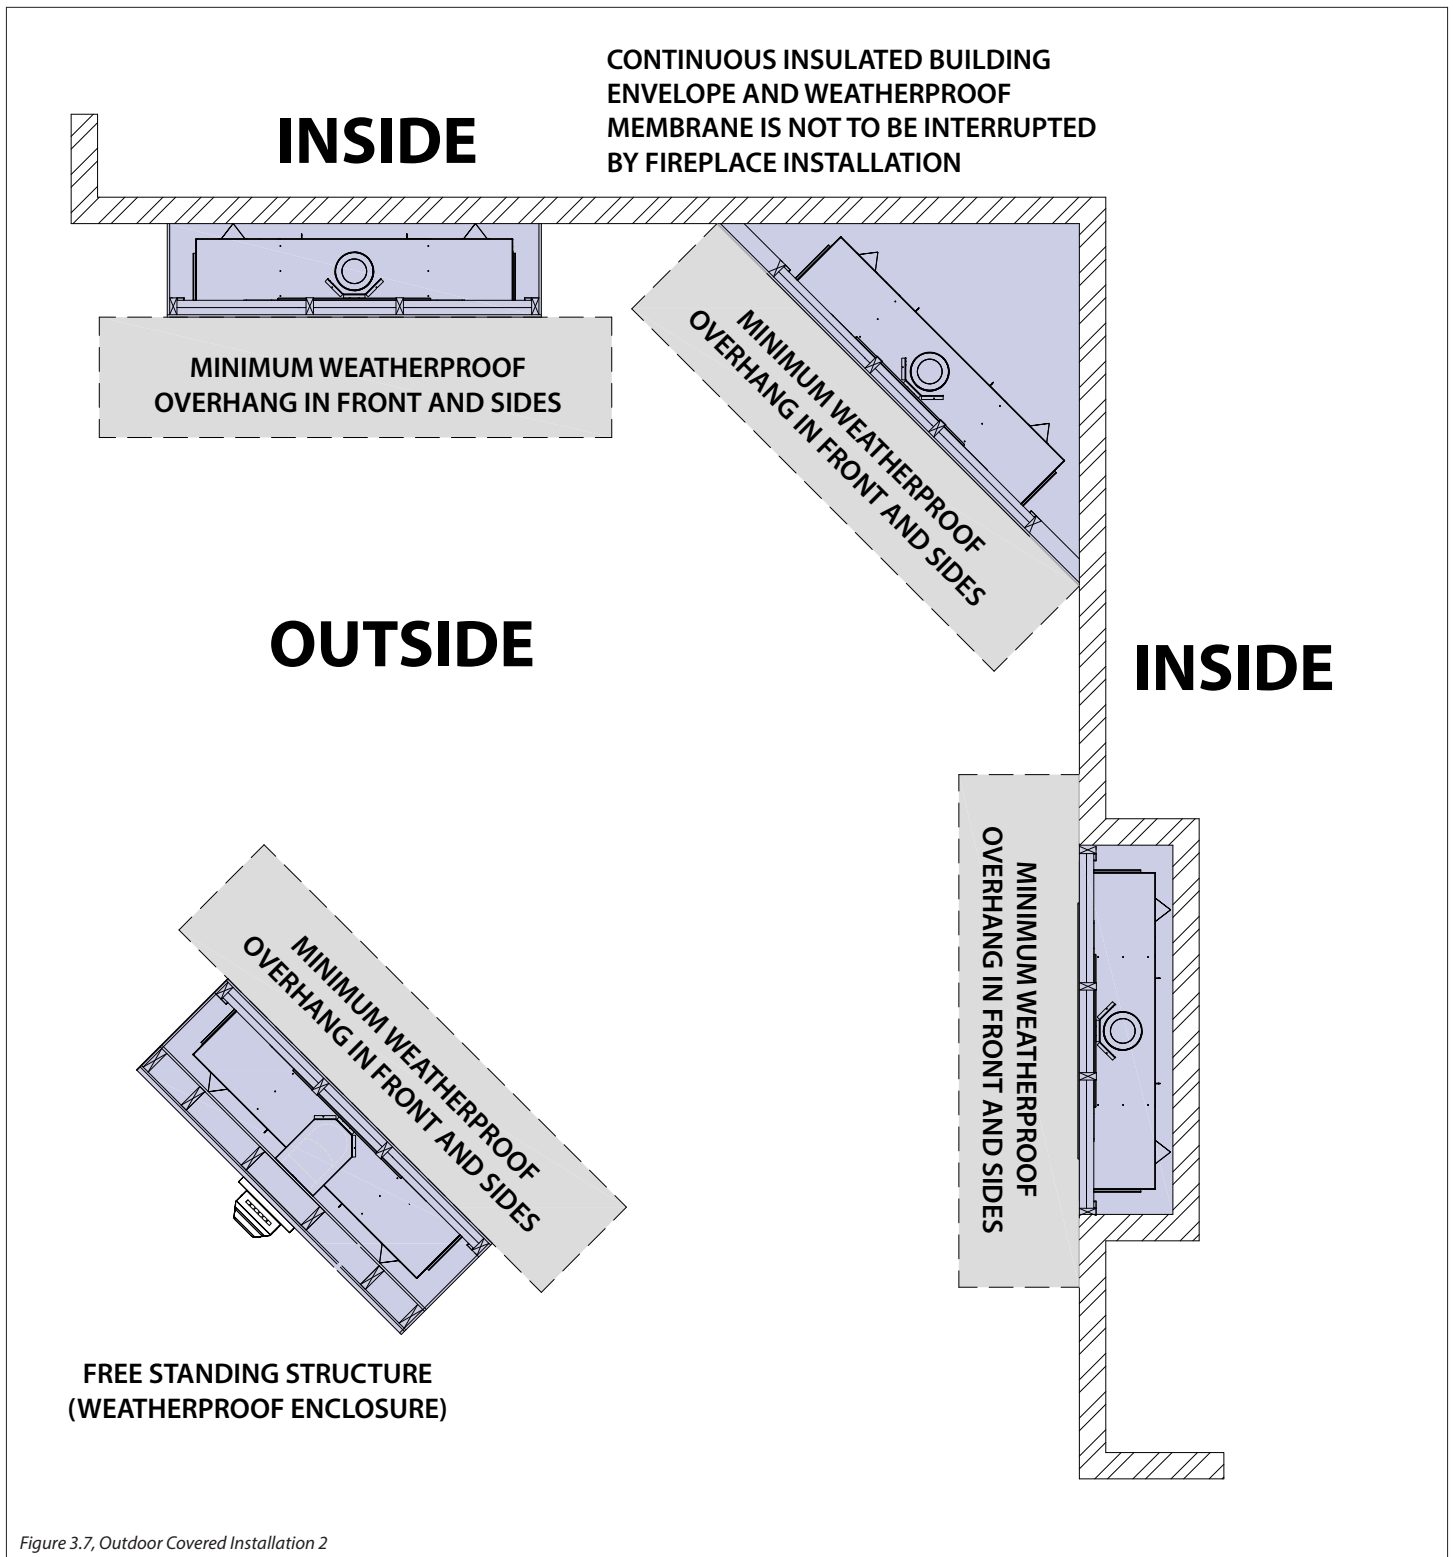

Figure 3.7, Outdoor Covered Installation 2
- The continuous insulated building envelope and weatherproof membrane are not to be interrupted by fireplace installation. See Figure 3.7 on the following page.